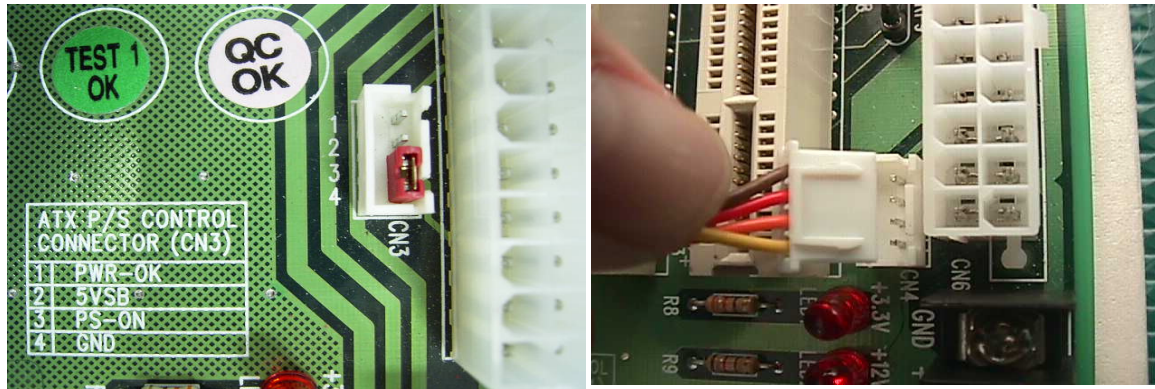

Figure 5-2
Step 1: If you want to use ATX mode, please removed the jumper on pin 3 (PS-ON) and pin 4 (GND) of backplane ATX P/S control connector. And connect 4 pins power cable. (Figure 5-2)